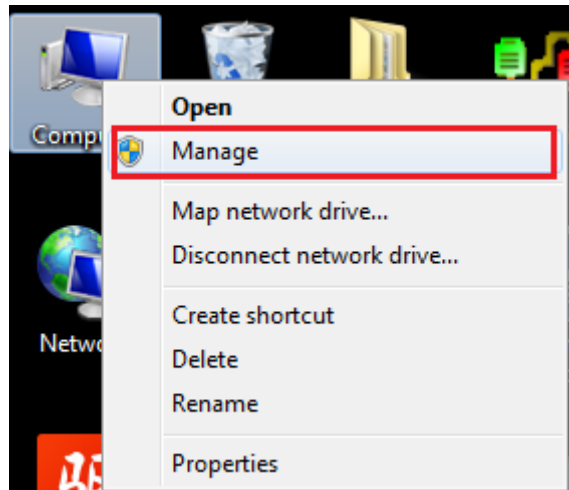

Figure 3-1 Manage Computer
- 1) As is shown in Figure 3-1, right click on “Computer” icon, and select “Manage” in menu.